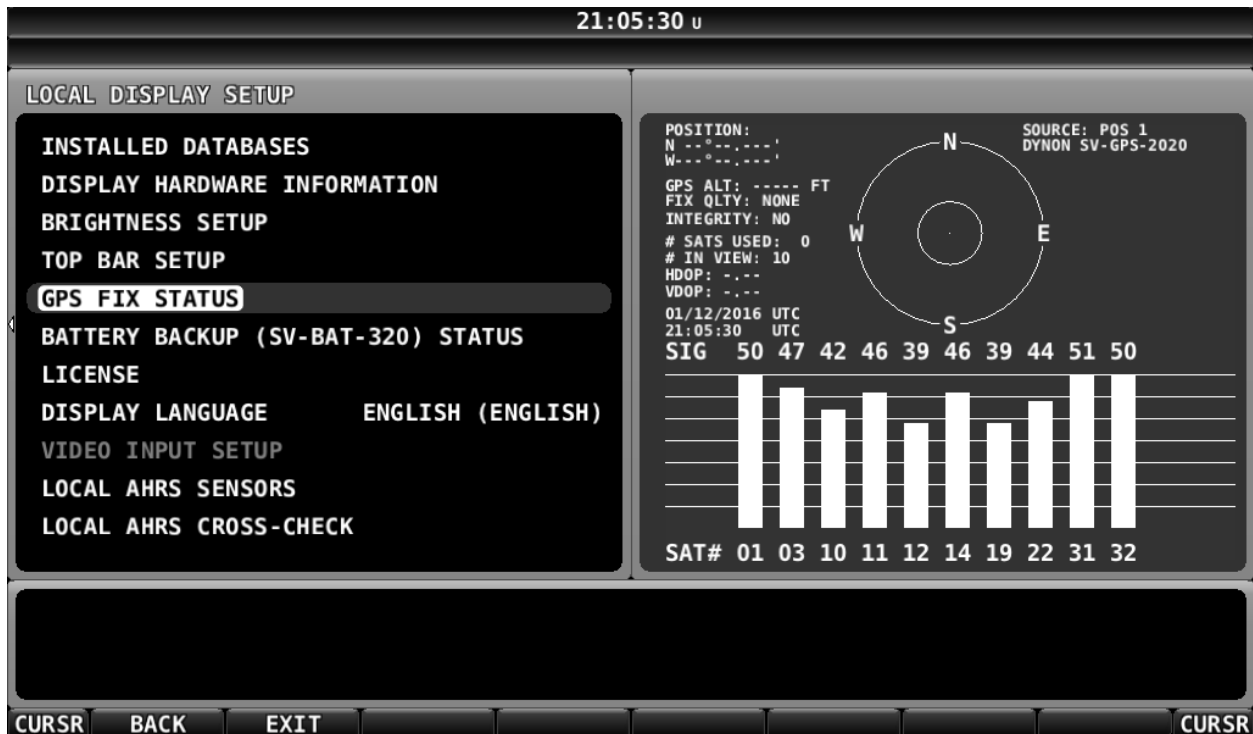

Figure 125 – No GPS Fix
**If, after waiting several minutes, any of the Minimum Values shown in Table 75 – Verification of SV-GPS-250/2020 Adequate Satellite Reception *are not shown* (such as illustrated in Figure 125 above) it may be necessary to install the SV-GPS-250/2020 in a different location on the aircraft.**